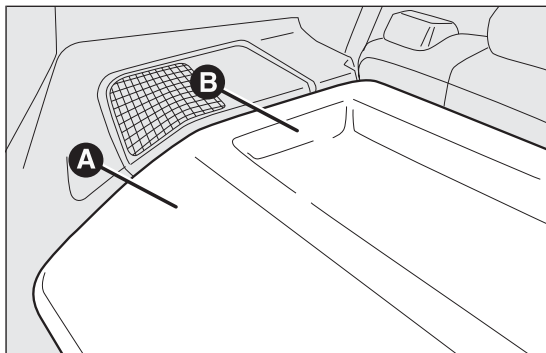
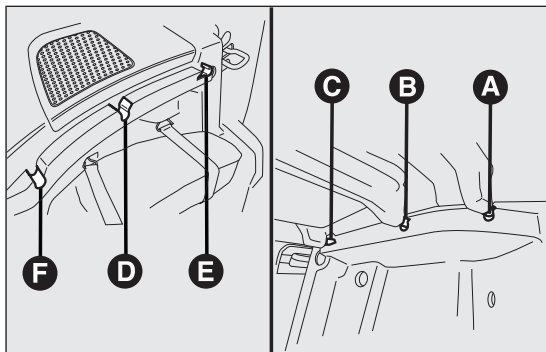

fig. 69
fig. 70
The parcel shelf fig. 69 consists of two parts.
- ☐ open the tailgate and lift the front part A fig. 69 by releasing the pin A fig. 70 from the seat F fig. 70;
- ☐ lift the rear part B fig. 69 by releasing the pins B and C fig. 70 from the seat D and E fig. 70.